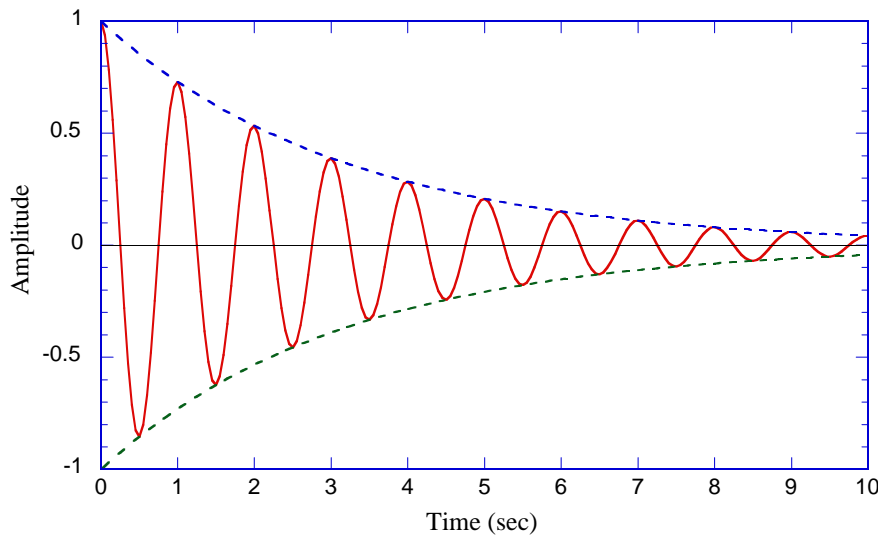

Fig. 2. Plot
The function for x , Equation (19), is sketched in Fig. 2